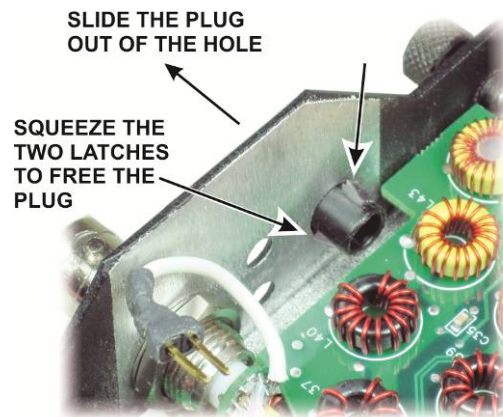

Figure 8. Removing the Hole Plug.
- Check the inside surface of the KX3 end panel. The surface should be clean metal free of paint or masking tape as shown in Figure 8. This is important to provide a good ground for the antenna connector and good contact for the KX3-2M or 4M module power transistor heat sink.
- Check the inside surface of the hole from which you removed the plug (Figure 8). The inside edge must be free of paint or tape; otherwise the antenna connector will not fit. If needed scrape the surface clean, taking care not to scratch the outside surface of the end panel or allow debris to fall inside the KX3